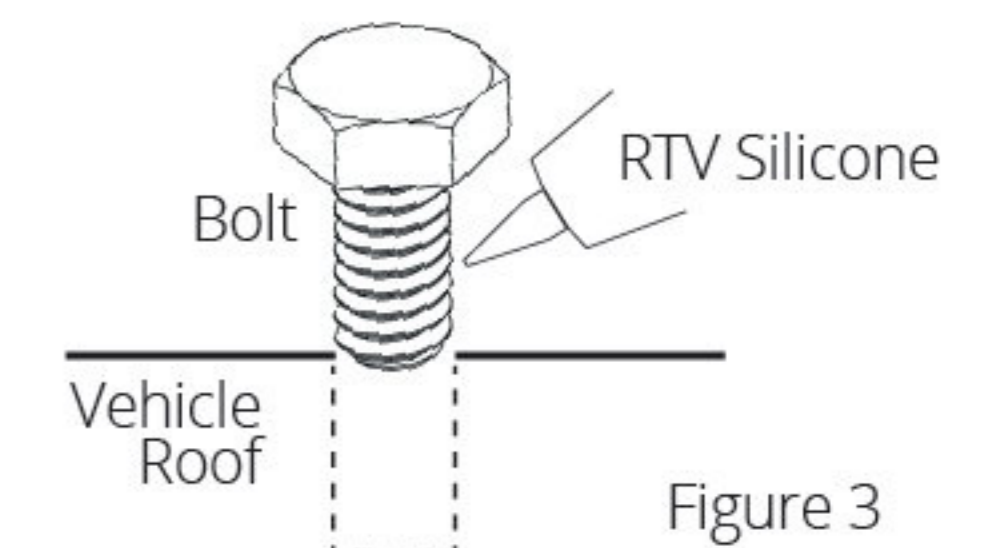

Figure 3
**Note: Also apply RTV silicone sealant to bolt threads (roof bolts) to prevent leaking. See figure 3**